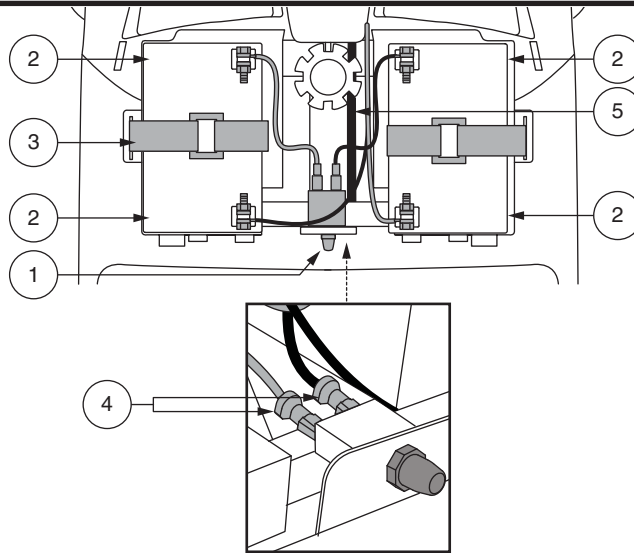

Figure 8. Battery Removal/Installation Terminals and Connections
2. Disconnect the battery tie-down strap. **See figure 8.**
3. Disconnect the battery harnesses by depressing the tabs on the battery harness connectors and pulling them straight up. **See figure 8.**
6. Place a new battery in each battery well. Face the battery terminals of each battery opposite each other and toward the outer sides of the scooter. **See figure 8.**